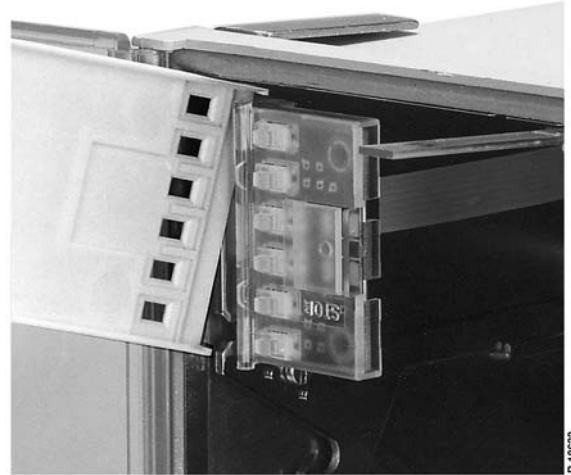

Figure 15 Replacing scales
4.2 Replacing scales (see Figure 15)